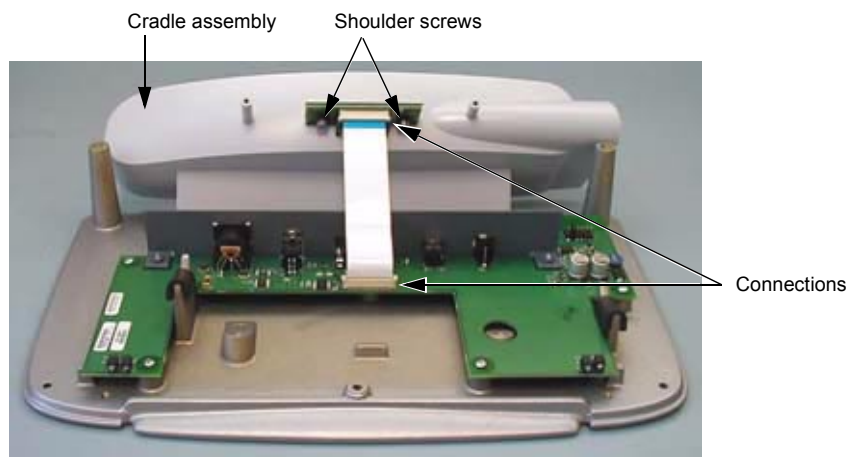

Figure 7.11 Docking Station Cradle Assembly
- 5 Gently lift the cradle assembly and rotate it away. (Figure 7.11)
- 6 Remove the flex cable by releasing the locking mechanism on either of the two connectors. (Figure 7.11)
- 7 The system connector is removed from the cradle assembly by removing the two (2) Phillips head shoulder screws. (Figure 7.11)